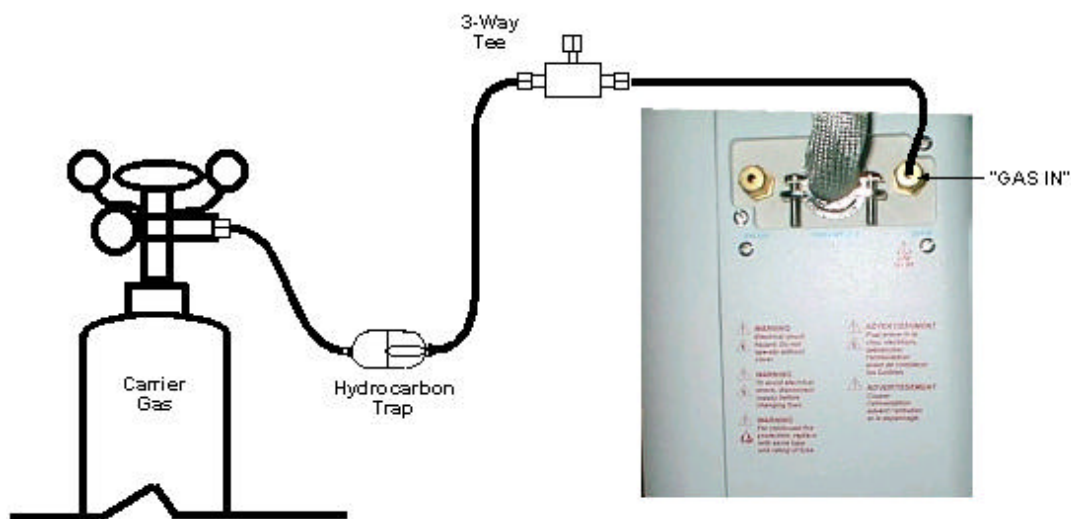

Figure 2-2: Connecting SOLATEk 72 to a Gas Supply
3. Using the 1/8" brass nut and ferrule assembly, attach the tubing to the connection labeled: "Gas In" on the rear of SOLATek 72 (Figure 2.2).